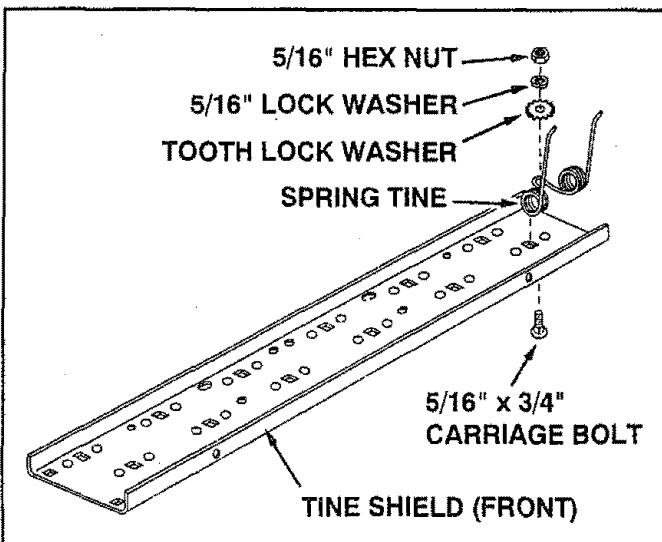

FIGURE 1
- Assemble six spring tines to the front of the tine shield using six 5/16" x 3/4" carriage bolts, tooth lock washers, 5/16" lock washers and 5/16" hex nuts. **Tighten.** See figure 1.